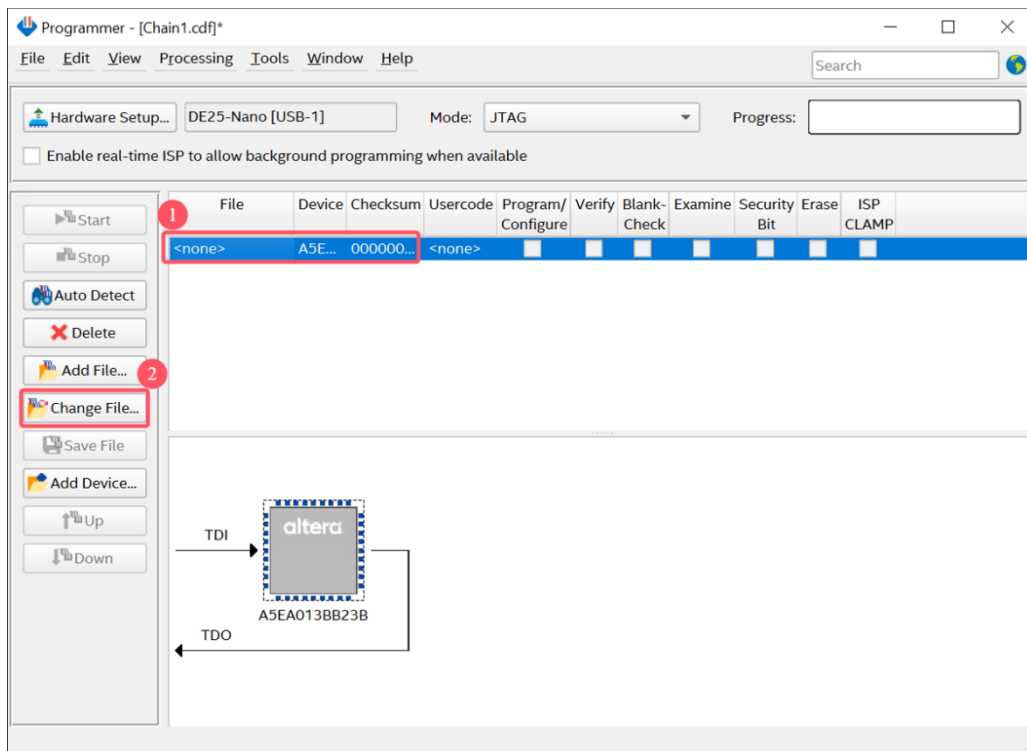

Figure 3-6 Open the .sof file to be programmed into the FPGA device
7. Right click on the FPGA device and open the .sof file to be programmed, as shown in **Figure 3-6**.